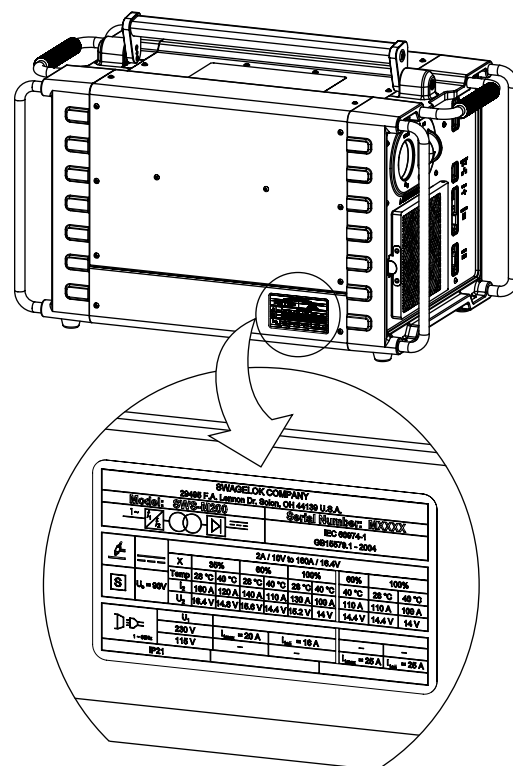

Fig. 5—M200 Power Supply Rating Label
3. Record the model number and serial number from the rating label on the back of the M200 power supply (Fig. 5), along with the delivery date, on the M200 Power Supply Warranty Information form and the Registration Information form, page 17. Return the Warranty Information form to your authorized Swagelok representative to activate the warranty.
Please take a moment to fill out the information listed below. See the rating label on the back of the M200 power supply. (Fig. 5) for the model and serial numbers.